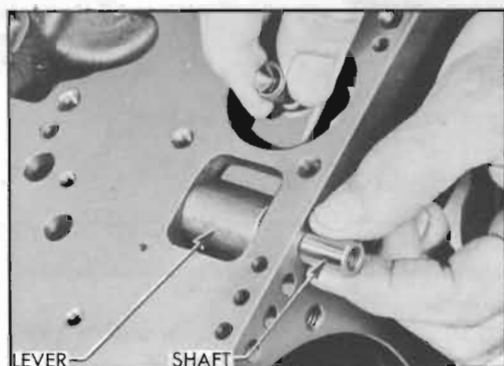

Figure 5-100—Installing Low Band Operating Lever and Shaft
1. Install the low band operating lever and shaft. Strut shoulder of lever must be toward inside of case and tapped end of shaft must be outward. See Figure 5-100.